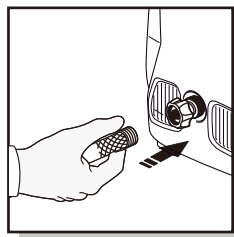

Fig. 11
- Attach garden hose to the garden hose adapter (Fig. 11).